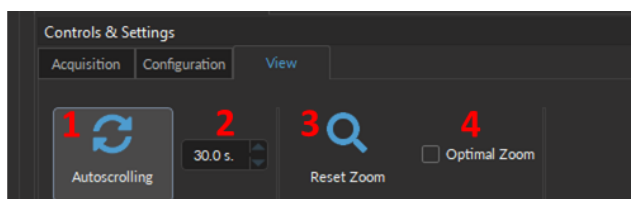

Figure 5.10: View Tab
The **View Tab** (Fig. 5.10) is used to modify the presentation of graphs in the **Acquisition view**.
1. The **Autoscrolling** button (Fig. 5.10, 1), when selected, automatically scrolls as new data appears.
2. The **Zoom range** (Fig. 5.10, 2) sets the **Autoscrolling** time axis to the value of choice, specified in the text-box.
3. The **Reset Zoom** button (Fig. 5.10, 3) readjusts the graph Y-axis to the default value, or the **Optimal Zoom** value if the **Optimal Zoom** check-box is selected.
4. The **Optimal Zoom** check-box (Fig. 5.10, 4) automatically adjusts the graph Y-axis range based on the values of the data collected. Smaller values will lead to greater zoom, and vice versa.